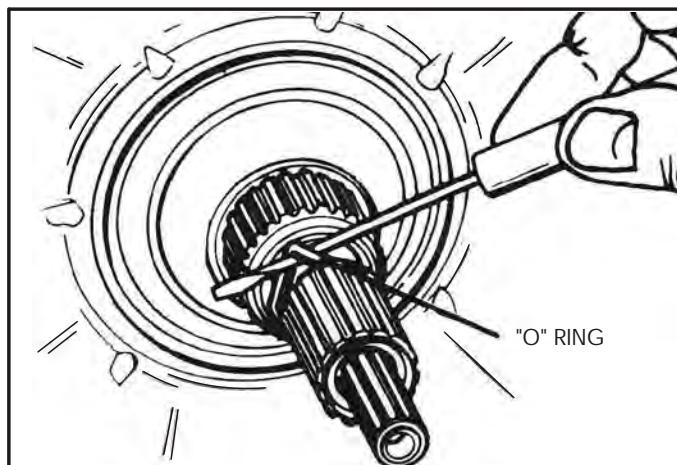

Figure 33
7. Remove and discard the turbine shaft "O" ring using a small screwdriver (See Figure 33).